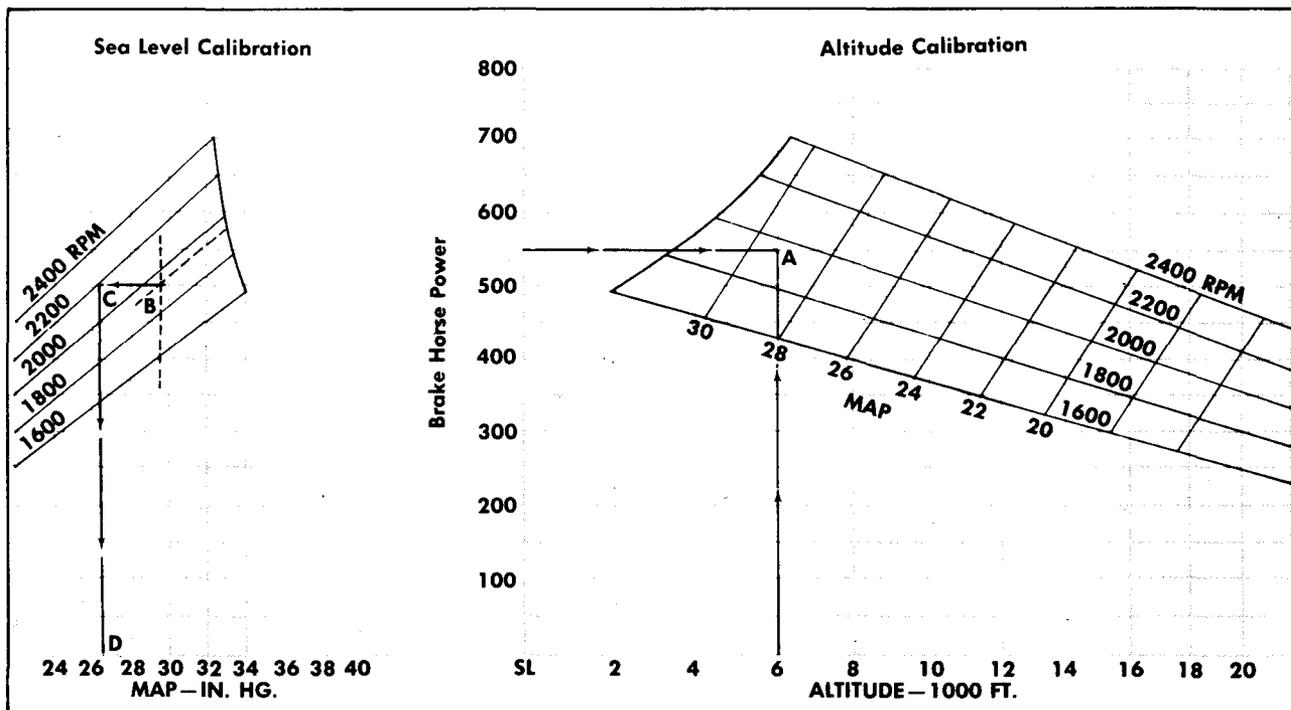

Fig. 11-8 - Power Chart
Problem 2. (Figure 11-8)
1. In Figure 11-8 locate the intersection of the lines representing 550 BHP and 6,000 feet altitude (point A) on the *altitude calibration chart*.
(a) The example problem shown in Figure 11-8 is used to determine required manifold pressure (MAP), with certain known factors: BHP 550; RPM 2200; altitude 6,000 feet. On the altitude chart locate the intersection of lines representing 550 BHP and 6,000 feet altitude, which is point "_____".